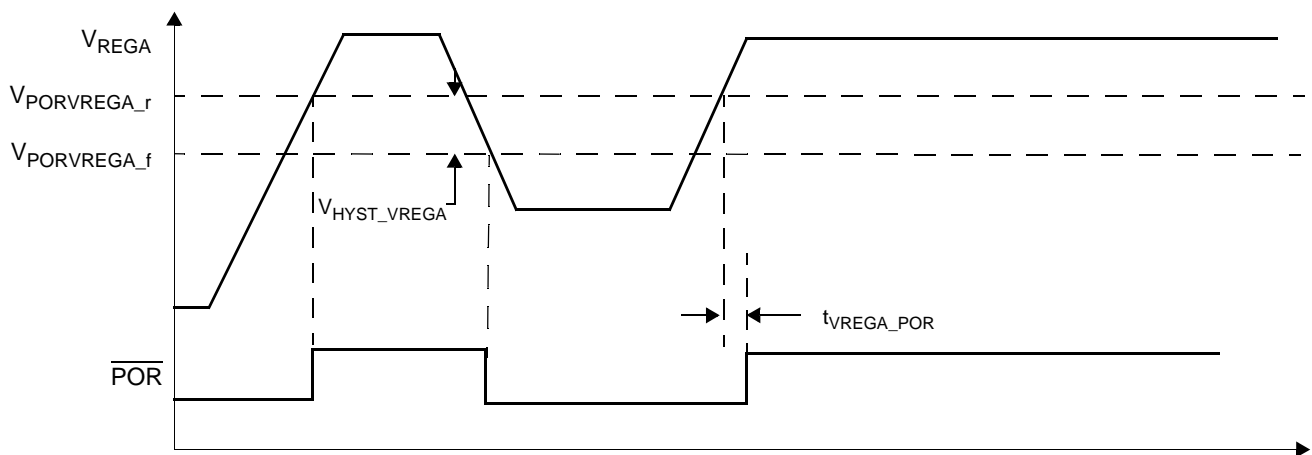

Figure 7. V_{REGA} Under-Voltage Detection
| 93 | V_{REGA} Under-Voltage Reset Delay (See Figure 7) $V_{REGA} < V_{PORVREGA_f}$ to POR assertion | t_{VREGA_POR} | — | — | 5 | μ s | (3) |